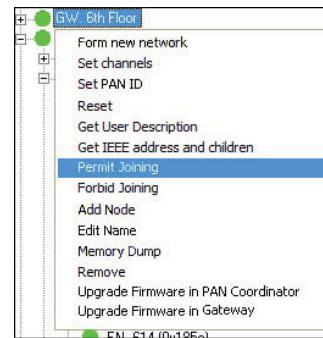

Figure 93
2. In SysMon, choose **View/Online Network** to see the online network. Right click on the designated gateway/router in the **Online Network** tree and select **Permit Joining** in the right-click menu; see Figure 93.